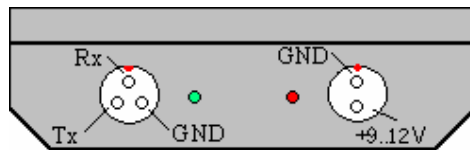

Fig. 3
The rear **DAMI-C HA01's** panel marked as Side B (Fig. 1) contains the following plugs and LEDs (Fig. 3):
- **In case DAMI-C HA01 is used with the AC Power Pack**, first, disconnect the AC Power Pack from 220V 50Hz power supply circuit and second, disconnect the plug-in from the device rear panel (Fig. 3).
- Connect the AC Power Pack with a power supply circuit 220V 50Hz. Batteries are being charged if necessary. Rear panel Red LED (Fig. 3) is ON when actual charging is in progress.
DAMI-C HA01 provides the sound signalling when detecting defects on the object under test. The sound signalling is driven to the embedded buzzer and to the headphones. The embedded buzzer can be switched off using the Settings operating mode (See the Sound signalling parameter). The headphones sound signalling is always on. Headphones can be connected to the RS232 3-pin plug-in (Fig. 3).